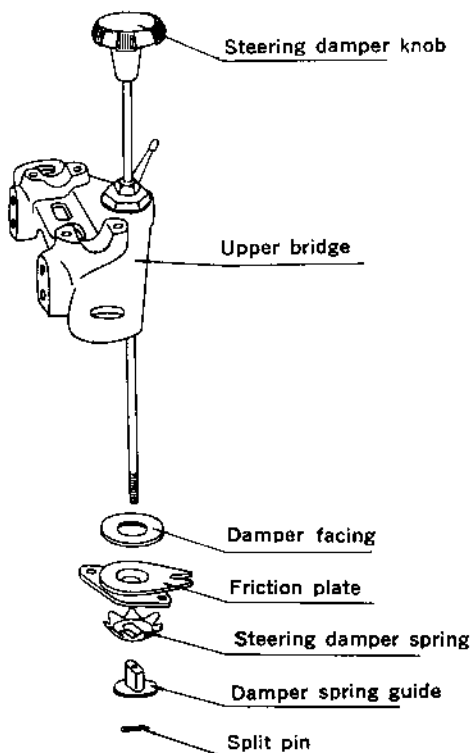

Fig. 101 Component parts of steering damper
1. The steering damper is disassembled by taking off the split pin at the bottom of the steering damper knob. Then loosen the steering damper knob and remove the special nut, friction plate, tension spring, and damper guide plate. (Fig. 101)